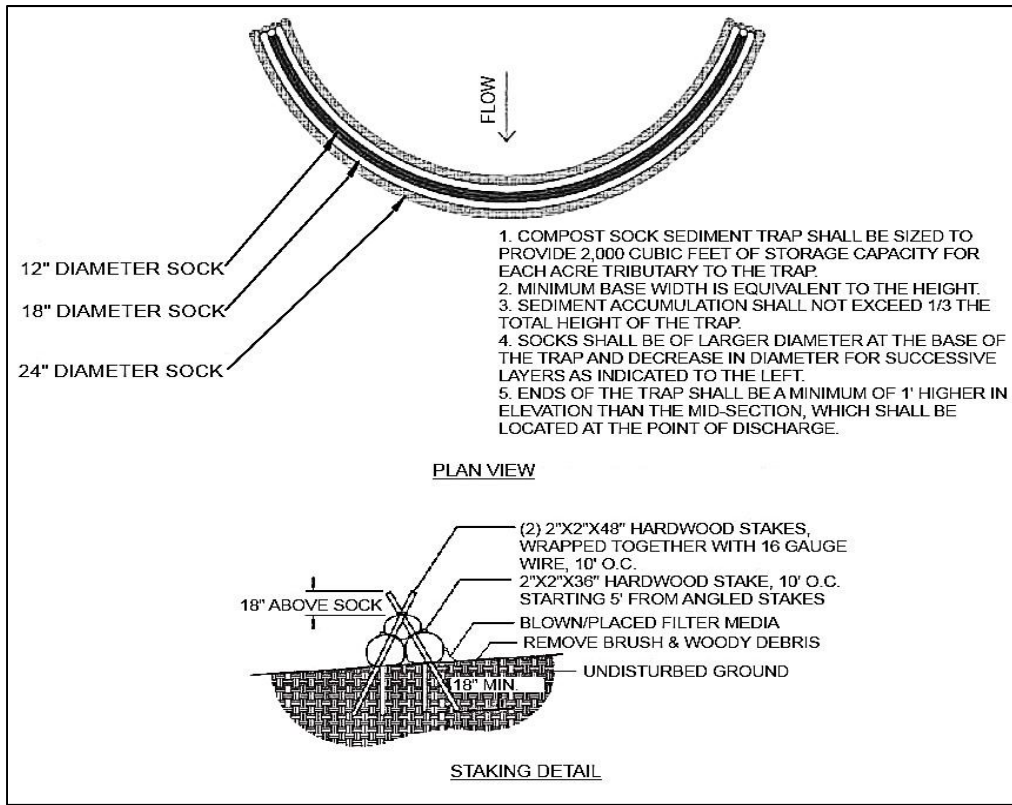

Figure 56: Compost Sock Sediment Trap
- See **Figure 56** for construction details.